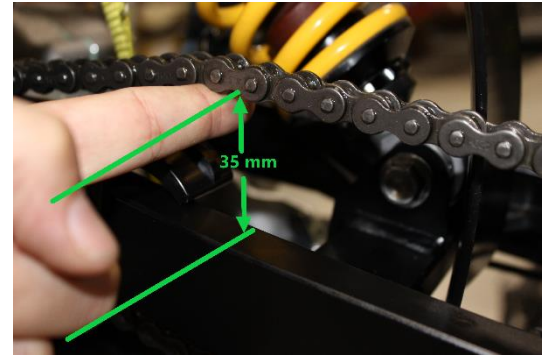

Figure 2
2. A properly adjusted chain will have 35mm (1.378") free movement behind the chain block with no load on the bike. (figure 2)